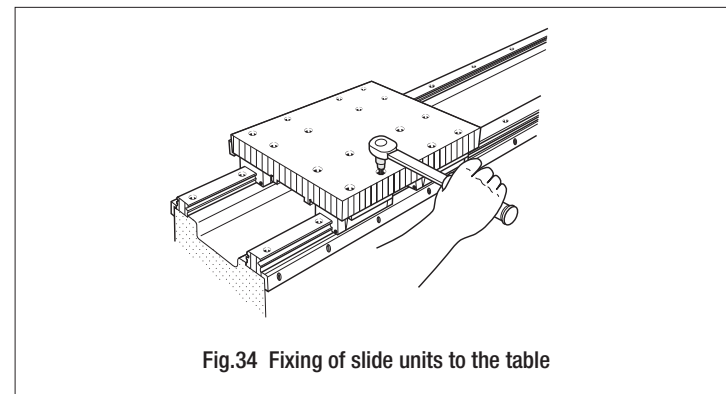

Fig.34 Fixing of slide units to the table
④ Temporary fixing of Linear Way I and II slide units
⑤ Final fixing of Linear Way I slide units
⑥ Final fixing of Linear Way II slide units
- Move the table by hand to ensure smooth movement, then fix the Linear Way II slide units to the table with mounting bolts. (See Fig. 34.)